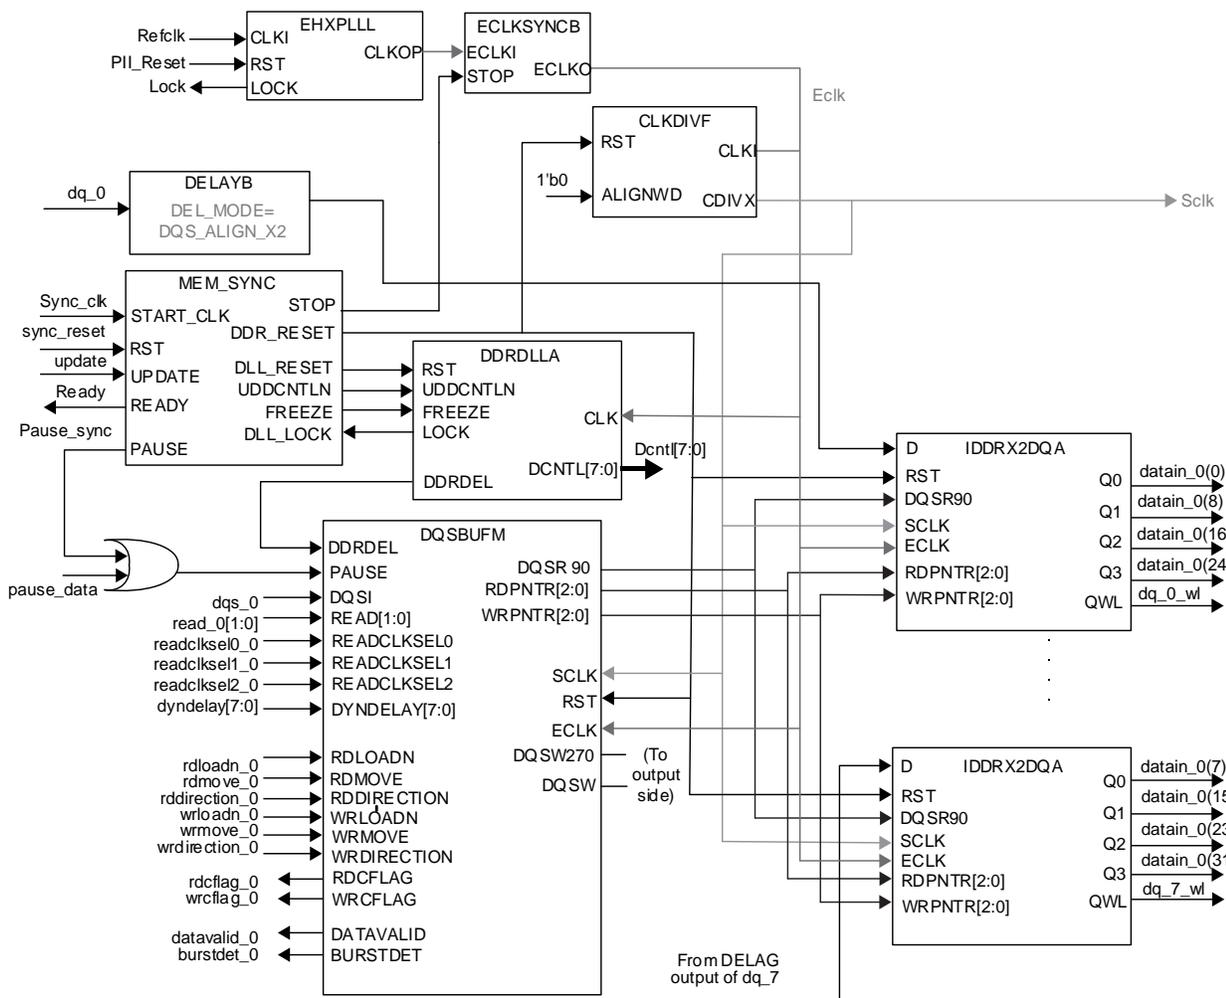

Figure 6.8. DDR3/DDR3L and LPDDR4 Read Side Implementation
The read side implementation is shown in Figure 6.8.
- The DQSW270 and DQSW clocks are generated in the DQSBUFM module, as shown on the Read side Implementation figure (Figure 6.8).